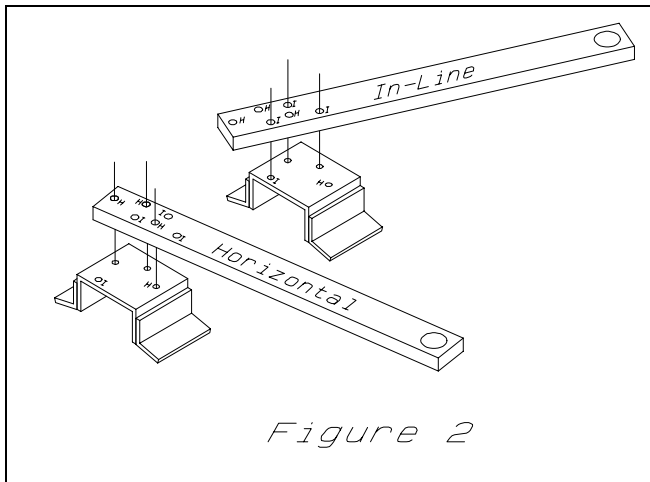

Figure 2
- Align the pivot plate (lettered side up) as shown in Fig. 2 for the mounting option previously determined.